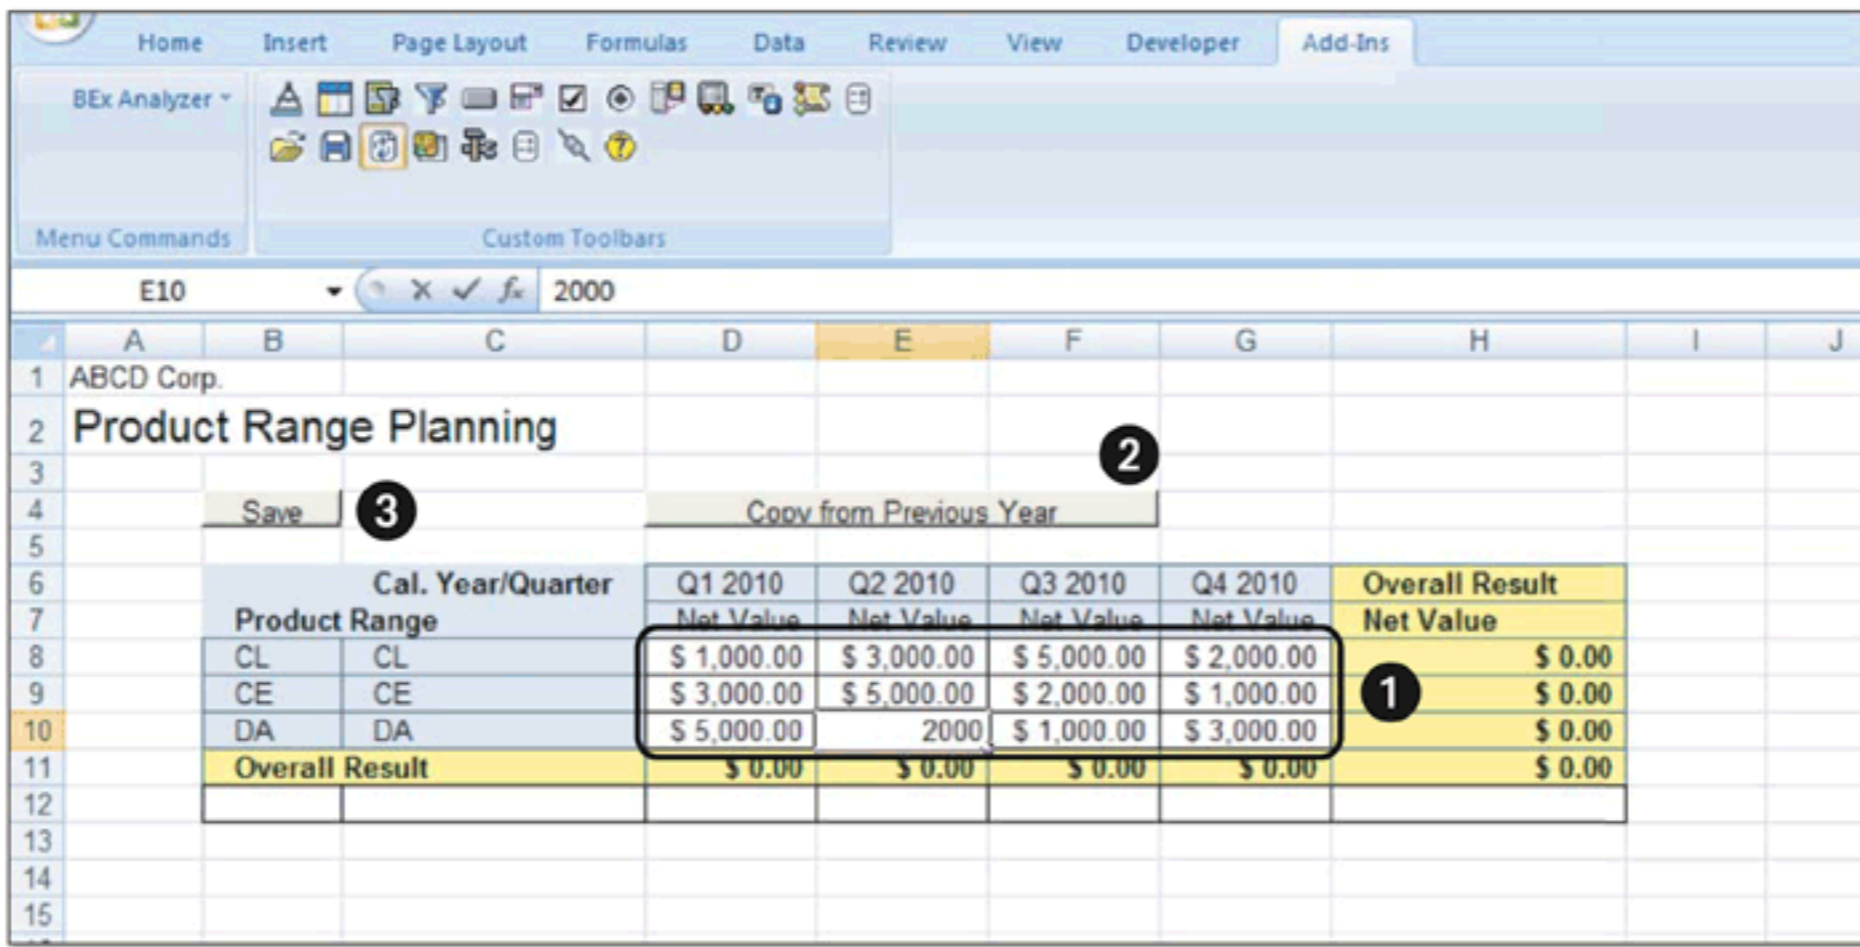

Figure 12.71 Working with Excel-Based Planning Applications
When this workbook is opened for planning, the application will appear as shown in Figure 12.71. You can enter or edit the plan values for the product ranges by calendar quarter (1) for the plan year and by sales organization entered in the variable screen of the query. Also, you can execute the planning function by clicking on the COPY FROM PREVIOUS YEAR button (2). Clicking on the SAVE button (3) saves the changed data and refreshes the totals.